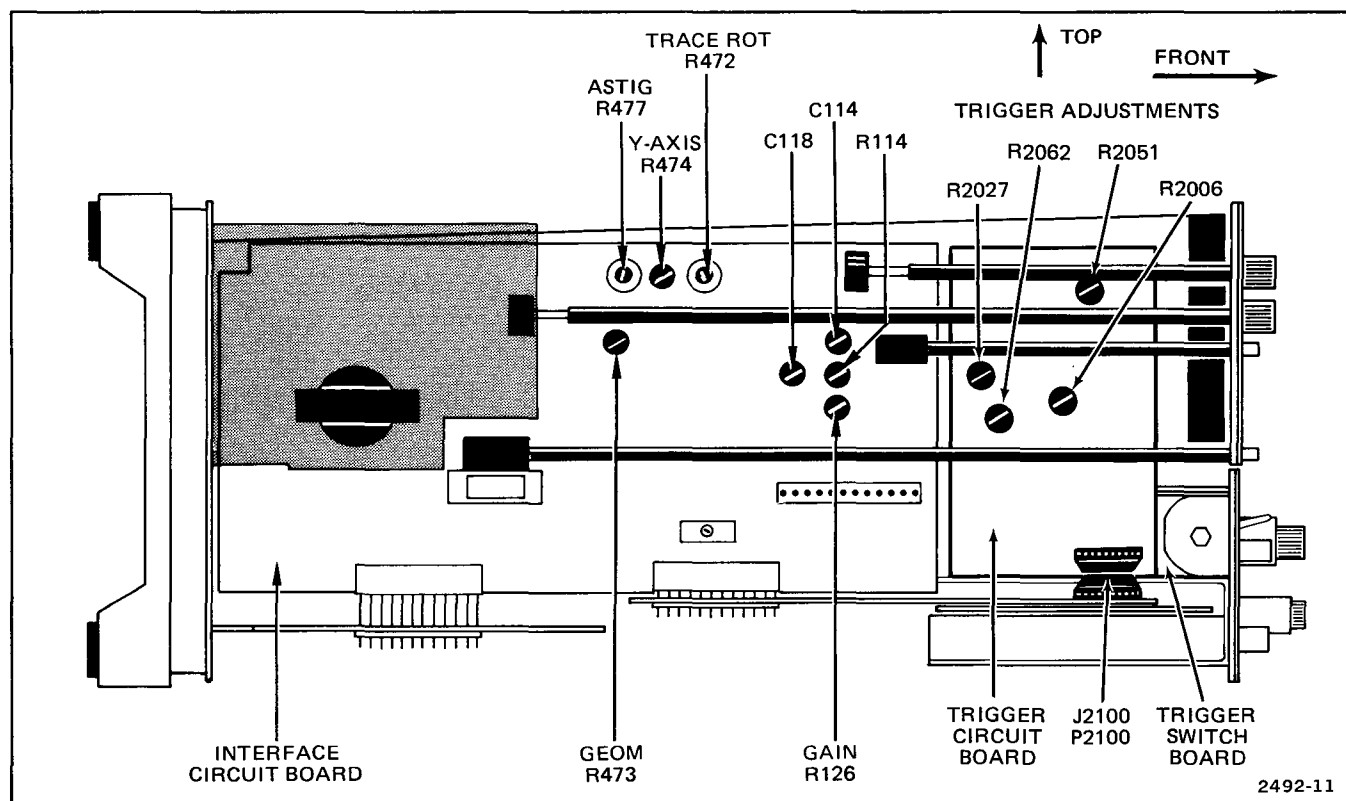
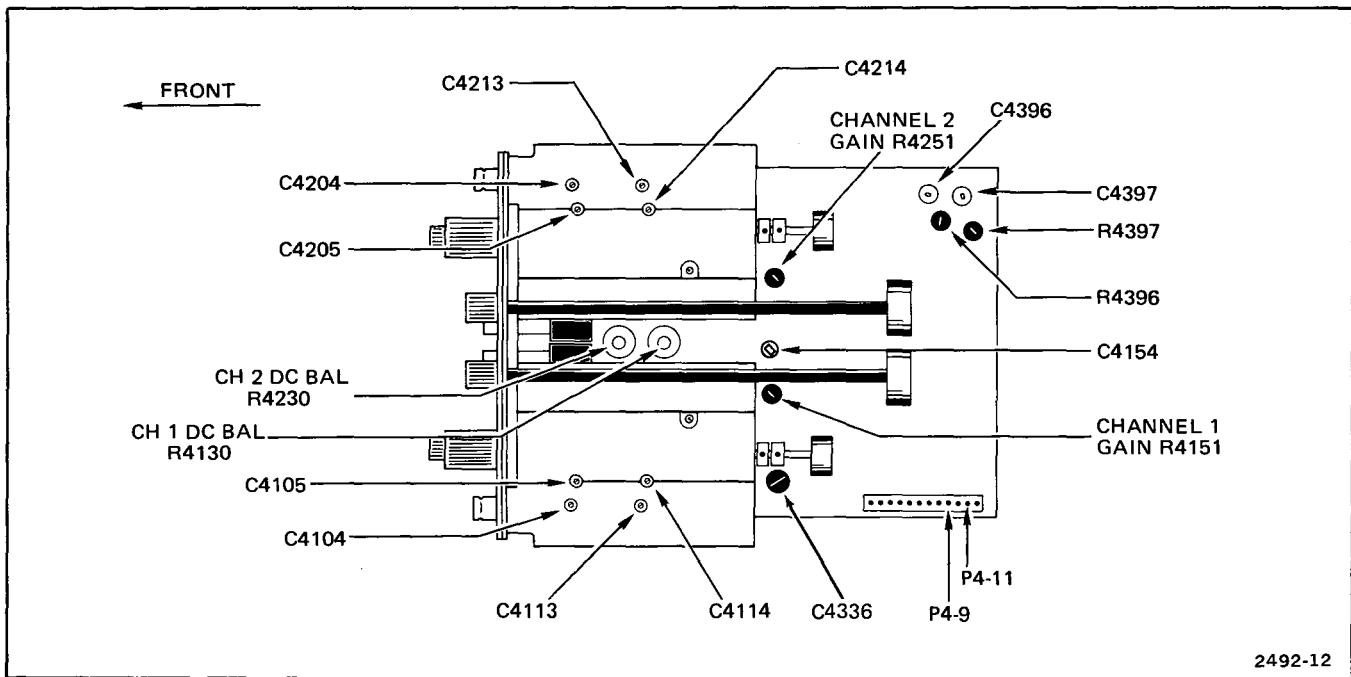

Fig. 4-2. Interface board adjustment locations (on left side of crt).
Fig. 4-3. Vertical Amplifier adjustment locations (bottom view of instrument).
- ADJUST—Trace Rot, R472 (see Fig. 4-2), to align trace with center horizontal graticule line.
e. ADJUST—Y-axis, R474, (see Fig. 4-2) to align center marker with center vertical graticule line.
- ADJUST—Geom, R473 (see Fig. 4-2) for best alignment of markers with the vertical graticule lines, i.e.: minimum bowing of markers.
a. ADJUST—CH 1 DC BAL, R4130 (see Fig. 4-3), for no trace shift while switching CH 1 VOLTS/DIV control between 2 mV and 10 mV.
c. ADJUST—CH 2 DC BAL, R4232 (see Fig. 4-3), for no trace shift while switching CH 2 VOLTS/DIV control between 2 mV and 10 V.
b. Set Gain, R126 (see Fig. 4-2), to physical midrange.
c. Connect digital voltmeter between P4-9 and P4-11 (see Fig. 4-3). Select range on meter for at least 500 mV reading.
f. Adjust Gain, R126 (see Fig. 4-2), so trace aligns with third graticule line above center horizontal graticule line.
- c. ADJUST—Gain, R4151 (see Fig. 4-3), for a 4-division display.
- e. ADJUST—Gain, R4351 (see Fig. 4-3), for 4-division display.
- e. ADJUST—C4397, R4397, C4396, R4396 (see Fig. 4-3), C114, R114, C118 (see Fig. 4-2), for best front corner of waveform using a low-capacitance alignment tool.
h. ADJUST—C4154 (see Fig. 4-3), for best square front corner of waveform using low-capacitance alignment tool.
c. ADJUST—C4114 (see Fig. 4-3) for best square front corner (see Fig. 4-4 for example).
e. ADJUST—C4105 (see Fig. 4-3) for best square front corner (see Fig. 4-4 for example). Disconnect test equipment.
c. ADJUST—C4214 (see Fig. 4-3) for best square front corner (see Fig. 4-4 for example).
e. ADJUST—C4205 (see Fig. 4-3) for best square front corner (see Fig. 4-4 for example). Disconnect test equipment.